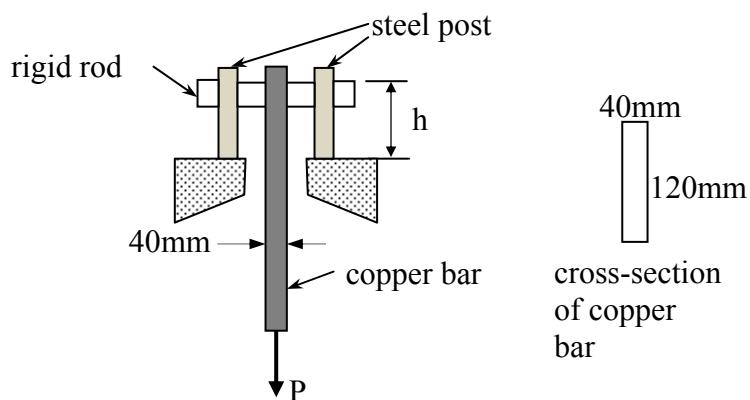

Figure 3
3. (a) Figure 3 shows a copper bar pulled by a load $P=400\text{kN}$. The copper bar has a rectangular cross-section as shown in Figure 3. The length of the copper bar is $L=7.5\text{m}$ and its modulus of elasticity $E_c=110\text{GPa}$. The copper bar is suspended from a rigid rod which is supported by two steel post. Each of the steel post has height $h=1.05\text{m}$, modulus of elasticity $E_s=200\text{GPa}$ and cross-sectional area $A_s=4.5 \times 10^3\text{mm}^2$.